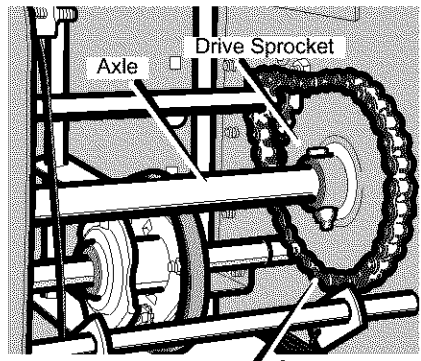

Figure 52
7. Remove the fasteners that secure the **drive sprocket** to the **axle** (see Figure 52).
16. Install the right wheel, **axle**, and **drive sprocket** with the fasteners removed earlier. Install the **chain** onto the **drive sprocket** (see Figure 52).